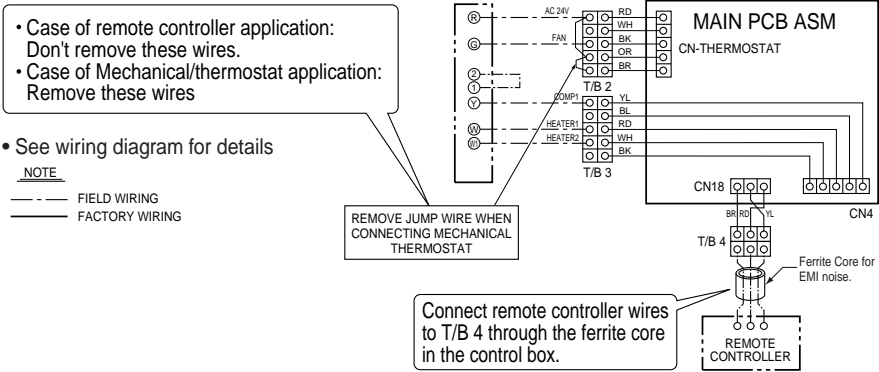

Figure 5B
■ Cooling only - 1 Comp, 2 Heater(Figure 5B)